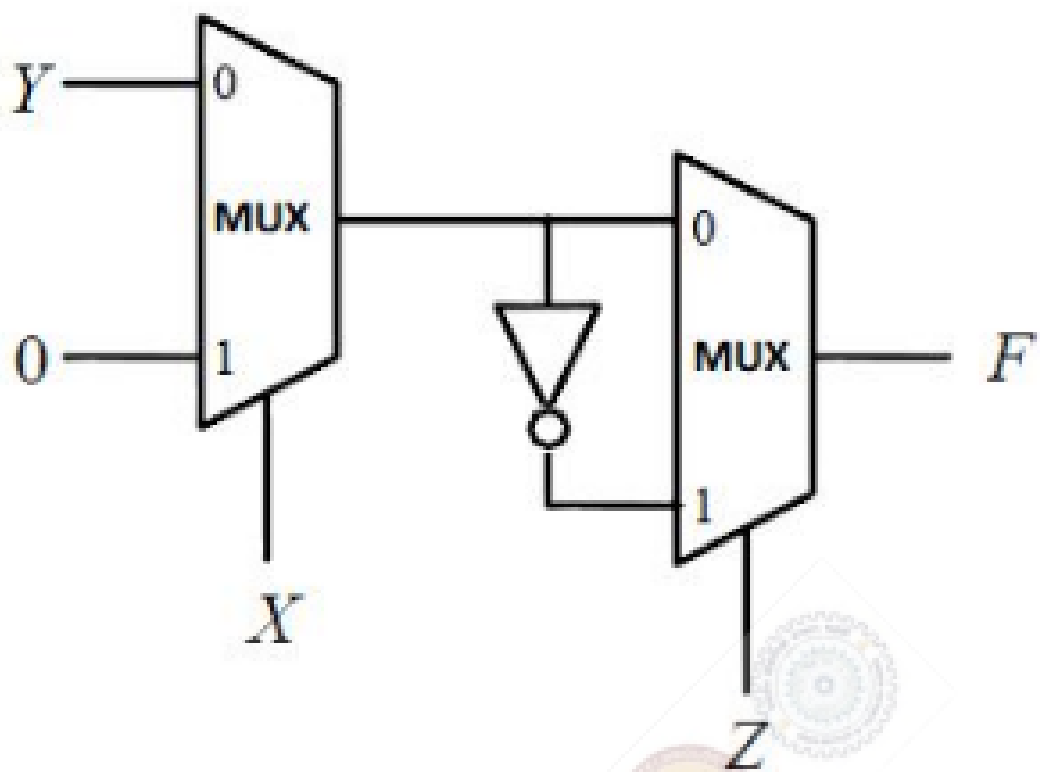

Figure 3.7:
20. Find the logic function implemented by the circuit given below in Fig. 3.7 (GATE EC 2017)